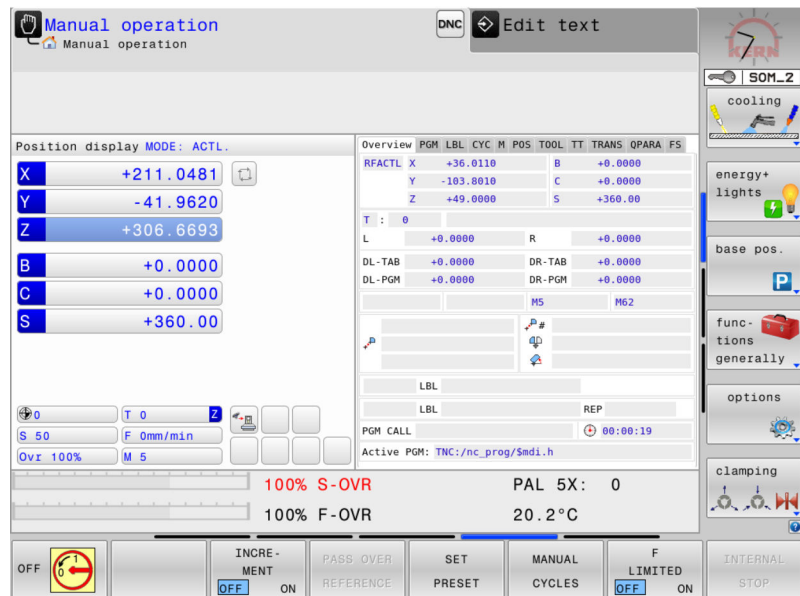

Fig. 71: Start screen
2.  Call up the start screen for visualisation Fig. 71.